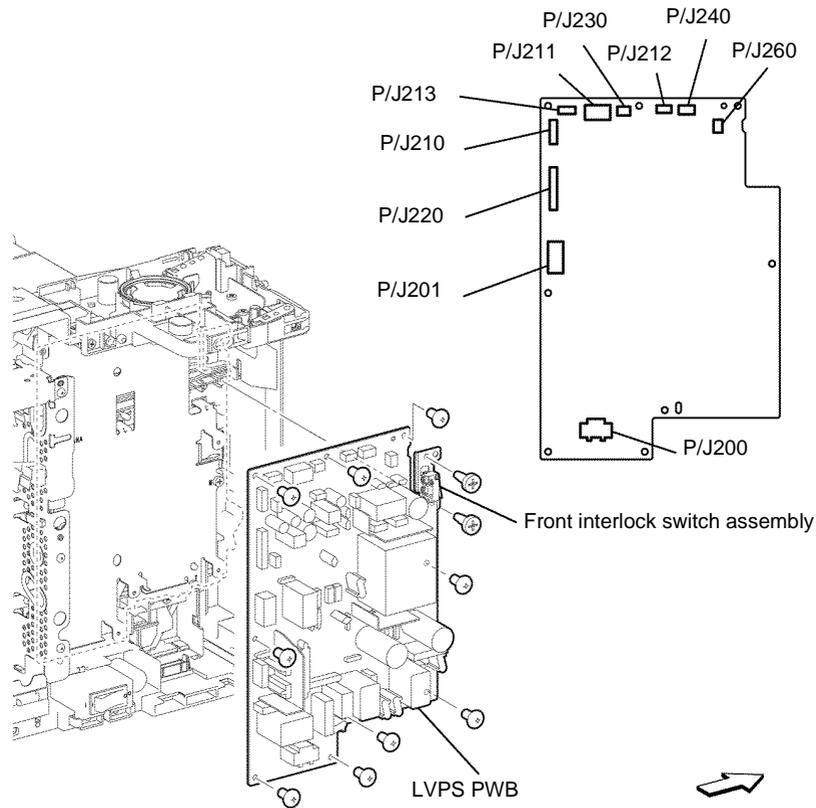

Figure 2 LVPS PWB removal
11. Disconnect all connectors from the LVPS PWB, Figure 2.
12. Remove nine screws (silver, M3, 6mm) that fix the LVPS PWB and two screws (silver, tapping, 8mm) that fix the front interlock switch assembly. Remove the LVPS PWB, Figure 2.